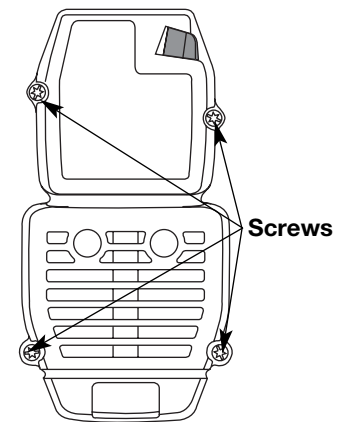

Fig. 14
1. Remove the four (4) screws securing the air filter/muffler cover (Fig. 14). Use a flat blade or T20 Torx bit screwdriver.
9. Reinstall the air filter/muffer cover (Fig. 14).
2. Insert the four (4) screws into the holes in the air filter/muffer cover (Fig. 14) and tighten. **Do not over tighten.**